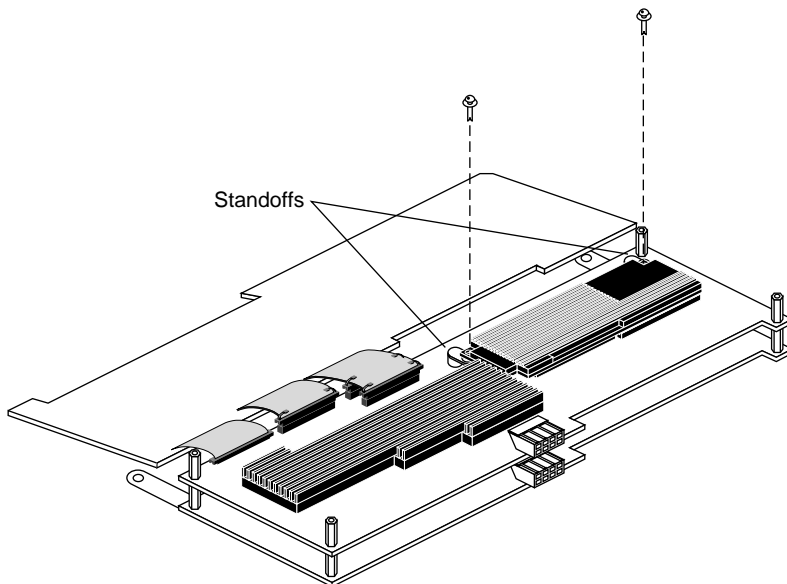

Figure 5-35 Location of Texture Memory Board on Middle Board
6. Determine the location of the texture memory option board. See Figure 5-35.
7. Remove the push pins by pulling up. See Figure 5-35.